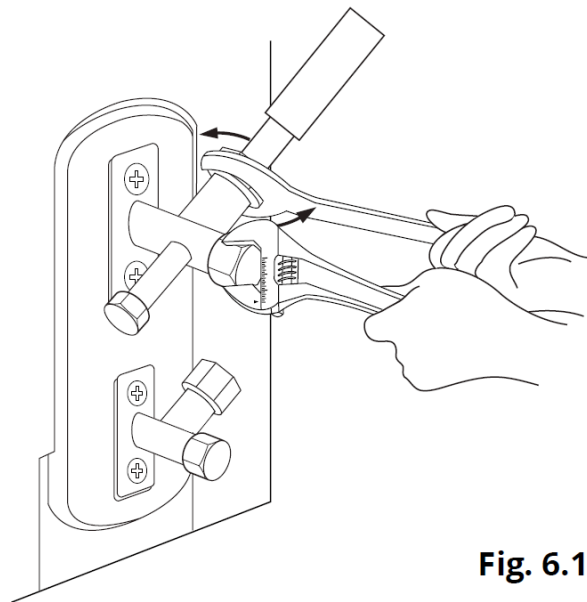

Fig. 6.10
Torque from tightening the flare nut can snap off other parts of the valve. See Fig. 6.10.
4. Using an adjustable wrench, grip the body of the valve. Do not grip the nut that seals the service valve. (See Fig. 6.10)